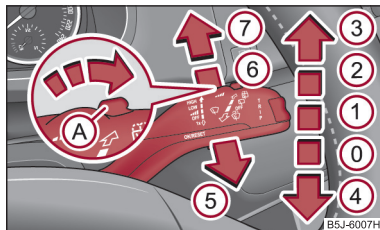

Fig. 46 Windscreen wiper lever
The windscreen wiper lever $\Rightarrow$ fig. 46 has the following positions:
- Push the lever away from the steering wheel into position **6** $\Rightarrow$ fig. 46, the wide-screen wiper will operate every 6 seconds.
The headlights are being cleaned after the windscreen washer system has been operated for the fifth time, the low beam or main beam are switched on as well as the windscreen wiper lever is held in the position ⑤ ⇒ page 55, fig. 46 for about 1 second.